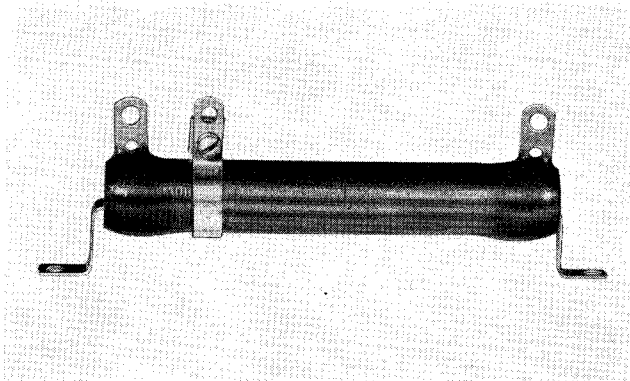

FIG. 5. Resistor S# 1590 776
Increasing the XL resistance (Fig. 5) decreases the braking torque applied as the motor is stopped after an operation in the "Lower" direction, hence
- Resistor.....S# 1590 776 (Fig. 5)